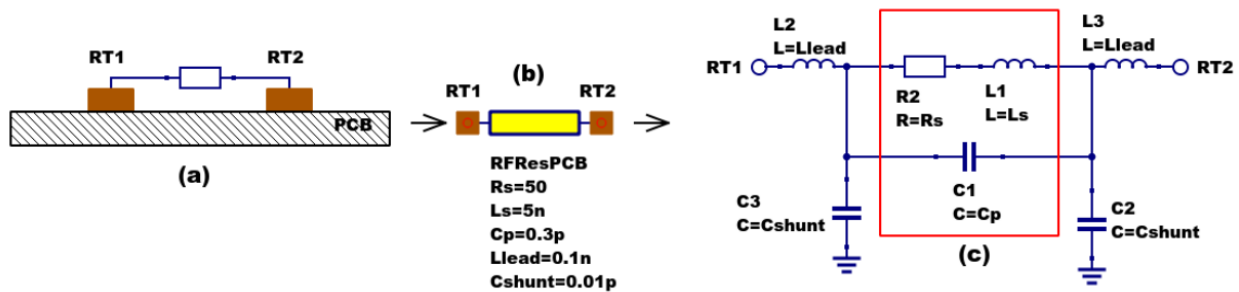

Figure 2 - PCB mounted resistor: (a) axial component mounting, (b) Qucs symbol and (c) equivalent circuit model.
The schematic symbol, I/V equation and parameters of the Qucs linear resistor model are shown in Figure 1. In contrast to this model Figure 2 illustrates the structure of a printed circuit board (PCB) mounted metal film (MF) axial RF resistor (a), its Qucs schematic symbol (b) and its equivalent circuit model (c). A thin film surface mounted (SMD) resistor can also be represented by the model shown in Figure 2 (c).
At signal frequencies where the largest dimension of an axial or SMD resistor is less than approximately 20 times the smallest signal wavelength a resistor can be modelled by a lumped passive circuit consisting of a resistor **Rs** in series with a small inductance **Ls** with the combination shunted by parasitic capacitor **Cp**. In Figure 2 **Rs** is the nominal value of resistor at its parameter extraction temperature **Tnom**, **Ls** represents the inductance associated with **Rs** where the value of **Ls** is largely determined by the trimming method employed during component manufacture to set the value of **Rs** to a specified tolerance. Similarly, capacitor **Cp** models a parasitic capacitance associated with **Rs** where the value of **Cp** is a function of the physical size of **Rs**. At RF frequencies it is important, for accurate operation, to add lead parasitic elements to the intrinsic equivalent circuit model shown within the red box draw in Figure 2. In Figure 2 **Llead** and **Cshunt** represent resistor series lead inductance and shunt capacitance to ground respectively.
A typical set of model parameters for a 51 Ω 5 % MF axial resistor are (1) **Ls = 8nH**, **Cp = 1pF**, **Llead = 1nH** and **Cshunt = 0.1pF**. Illustrated in Figure 3 is a basic S parameter test bench circuit for measuring the S parameters of an RF resistor over a frequency range 1 MHz to 1.3 GHz. This example also demonstrates how the real and imaginary parts of a resistor model impedance can be extracted from S parameter simulation data. The graphs in Figure 3 clearly demonstrate that the impedance of the typical MF RF resistor described in previous text and modelled by the equivalent circuit shown in Figure 2 is a strong function of frequency at higher frequencies in the band 1 MHz to 1.3 GHz.
Figure 8 - Qucs device model parameter extraction system applied to a nominal 47 Ω resistor represented by the subcircuit model illustrated in Figure 2 (c). Fixed model parameter values: **Rs = Rm = 47.3 Ω**, **CShunt = 0.08pF**; Optimised values: **Ls = L = 10.43nH**, **Llead = LL = 1.47nH**, **Cp = C = 0.69pF**. To reduce simulation time the ASCO cost variance was set to 1e-3. The ASCO method was set to DE/best/1/exp.
Figure 13 - Qucs device model parameter extraction system applied to a nominal 100Ω SMD resistor represented by the subcircuit model illustrated in Figure 2 (c).
Listed below is an example Verilog-A code model for the RF resistor model introduced in Figure 2 (c). Due to the limitations of the Verilog-A language subset provided by version 2.3.4 of the "Analogue Device Model Synthesizer" (ADMS)⁴ inductors **Ls** and **Llead** are modelled by gyrators and capacitors with values identical to **Ls** or **Llead**.